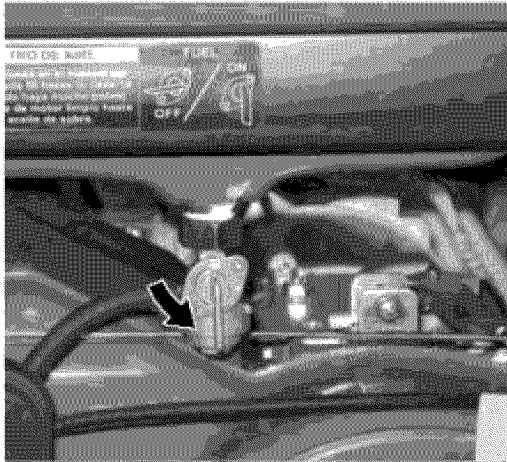

Figure 22 – Fuel Shutoff Valve in the **ON** Position
2. Move the fuel shutoff valve to the **ON** position (see Figure 22).